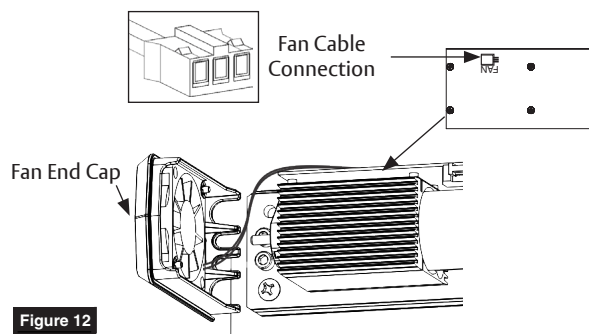

Figure 12
4. Connect fan to closer body. (Figure 12)